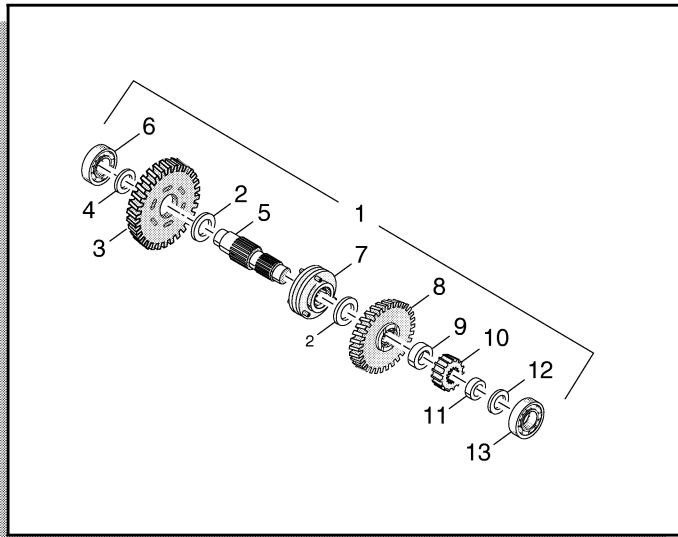

Fig. C-2 Intermediate Shaft Assembly
1. Install the spacer (2), drive gear (3), and spacer (4) on the intermediate gear shaft (5) as shown (Ref Fig. C-2 on page C-2).
2. Using a mechanical press, install a new bearing (6) on the shaft.
3. Install the pin clutch (7), spacer (2), reverse gear (8), collar (9), output gear (10), collar (11), and spacer (12) on the shaft as shown.
4. Using a mechanical press, install a new bearing (13) on the shaft.